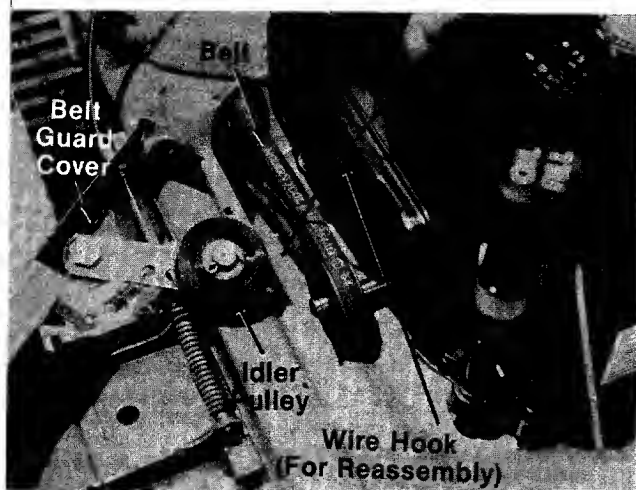

FIGURE 26.
6. Unhook the belt from the idler pulley. See figure 26.
When reassembling the idler pulley and belt guard cover, place a wire hook under the belt. Pull up on the hook, and slip the idler pulley under belt. See figure 26.